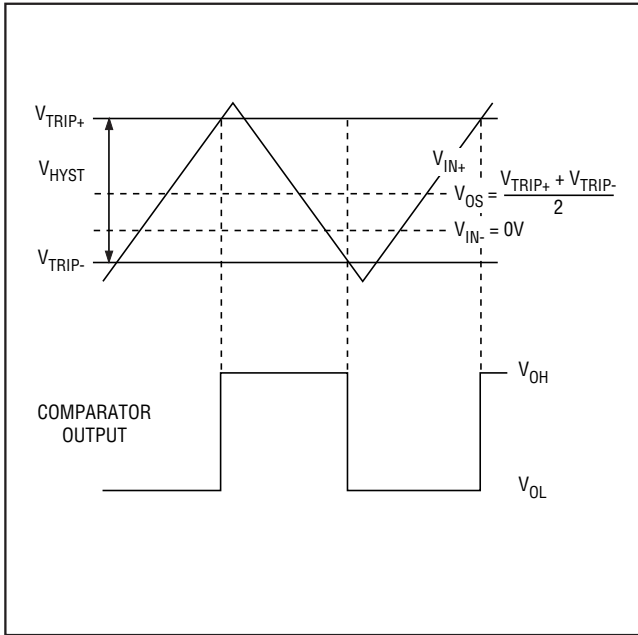

Figure 1. Input and Output Waveform, Noninverting Input Varied
- Note 2:** The input-referred trip points are the extremities of the differential input voltage required to make the comparator output change state. The difference between the upper and lower trip points is equal to the width of the input-referred hysteresis zone (see Figure 1).
- Note 3:** VOS is defined as the center of the input-referred hysteresis zone (see Figure 1).
The hysteresis in a comparator creates two trip points: one for the rising input voltage and one for the falling input voltage (Figure 1). The difference between the trip points is the hysteresis. When the comparator's input voltages are equal, the hysteresis effectively causes one comparator input voltage to move quickly past the other, thus taking the input out of the region where
Figure 1 illustrates the case where  $IN-$  is fixed and  $IN+$  is varied. If the inputs were reversed, the figure would look the same, except the output would be inverted.